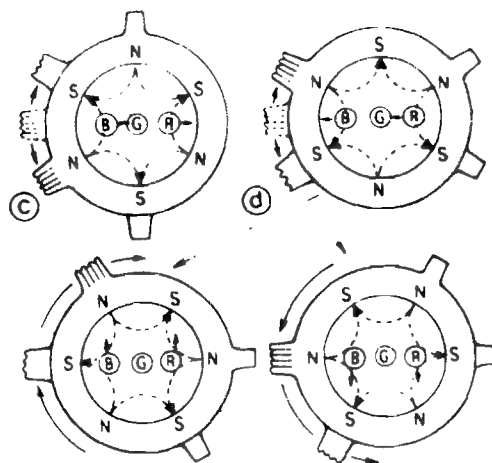

FIGURE 6
4. Move the two Purity Magnets and bring the Magenta belt to the mechanical center of the screen (See Fig. 5) The vertical center position should be set VRS to  $-5/64''$  ( $-2$  mm) as shown in Fig. 6.